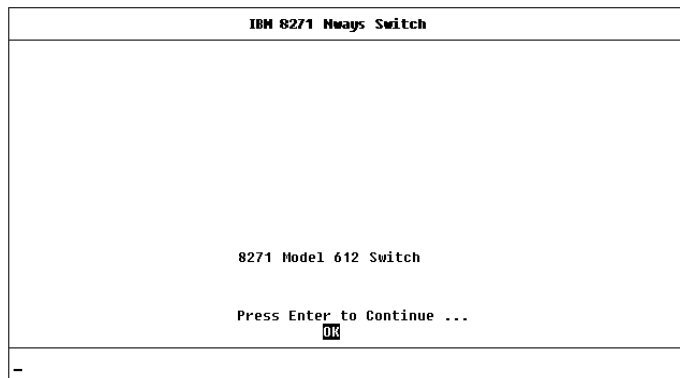

Figure 7-2 Main Banner
- 2 At your terminal, press [Return] two or more times until the Main Banner is displayed, as shown in Figure 7-2.